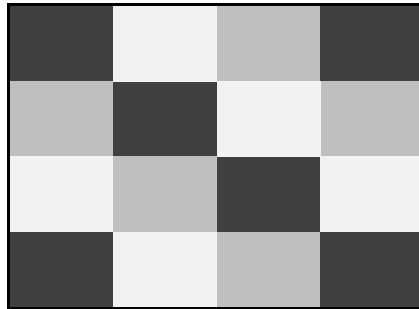

Figure 4-2. Display Test Pattern
6. Press  **CALIBRATE** .The Test Tool shows a dark display; the test pattern as shown in Figure 4-2 may be not visible or hardly visible.
The Test Tool shows the display test pattern shown in Figure 4-2, at default contrast. Observe the display closely, and verify that the display shows no abnormalities. Also verify that the contrast of the upper left and upper right square of the test pattern is equal.
The Test Tool shows a light display; the test pattern as shown in Figure 4-2 may not be visible or hardly visible. Observe the display closely, and verify that the display shows no abnormalities.